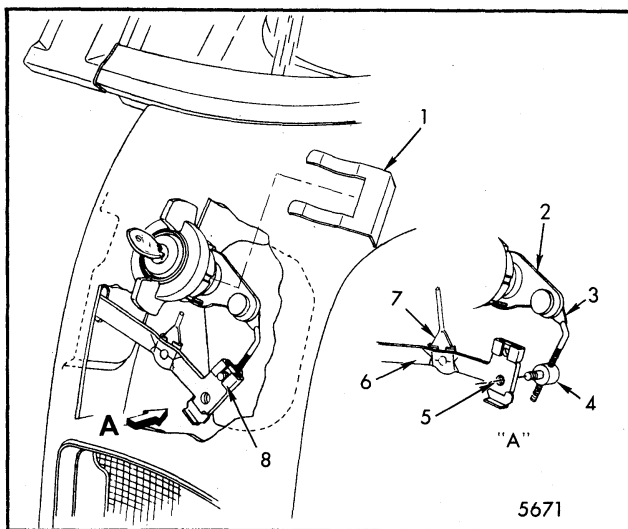

Fig. 7-146-Lock and Release Switch Assembly - Manual Gate
3. Working around right pillar inner panel, disengage tailgate window stop cable and switch pawl rod at lock lever (Fig. 7-146).
switch assembly into one integral unit and is held in place by a flat spring retaining clip (Fig. 7-146). The key cylinder operates the glass electrically through the opening cycle (first position clockwise) and closing cycle (first position counterclockwise). The winged knob rotates only in a clockwise direction for mechanical release of the tailgate, however, the window must be raised approximately 8 inches before the tailgate may be released with the knob. The key is not required for operation of the knob, provided the window is opened by the instrument panel control switch.
The control knob is connected to the lock lever by a pawl, connecting rod and swivel (Fig. 7-146). The swivel is adjustable on the connecting rod in order to provide correct switch-to-lock lever relationship.
4. On manual tailgate control switches, disengage control switch-to-lock lever link. Remove control switch retaining clip and withdraw switch and cylinder unit outward through piercing in quarter panel (Fig. 7-146).
1. With key cylinder in centered (vertical) position, withdraw key sufficiently to render cylinder inoperative (Fig. 7-146).
4. Adjust swivel on pawl-to-lock lever rod to align with pilot hole on lock lever (Item "5", Fig. 7-146).
5. Rotate pawl upward and engage swivel in clip on lock lever (Item "8", Fig. 7-146).